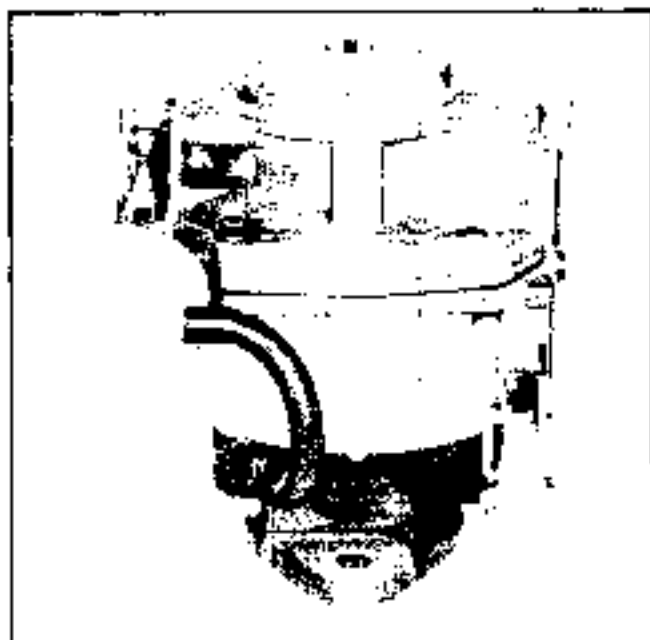

Fig. 6B-20 Vacuum Break Diaphragm Installed
4. To insure proper end clearance between choke trip lever and choke rod lever, move choke shaft horizontally to obtain .020" clearance between the two levers (Fig. 6B-18). Then tighten two choke valve attaching screws securely and stake in place.